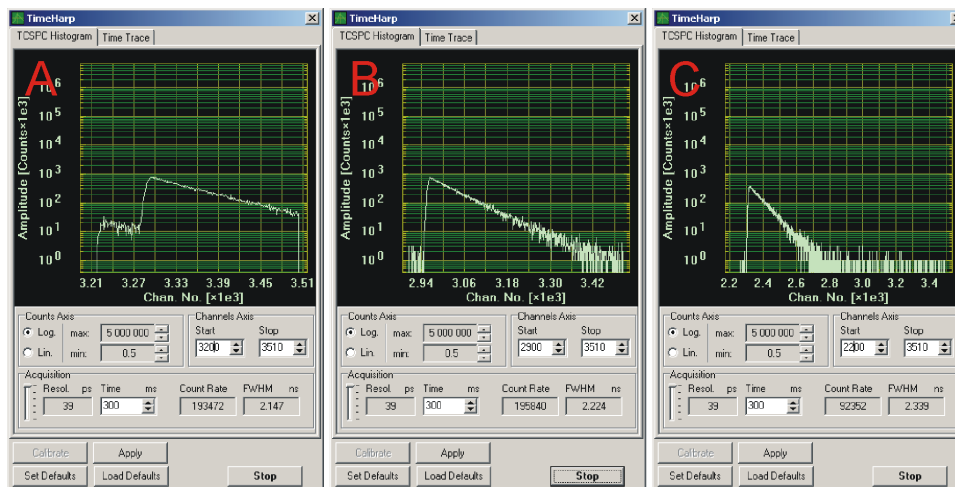

Fig. 3.5: Fluorescence decay at too high (A, 80 MHz), optimal (B, 40 MHz) and unnecessary low (C, 20 MHz) laser repetition rate.
This is illustrated in Fig. 3.5. At 80 MHz laser repetition rate, the fluorescence does not decay completely before the end of the time window is reached. Due to a “wrap around” the decay tail is observed even before the actual pulse (A). At 40 MHz the **time window is optimally adapted (B)**, while at 20 MHz the fluorescence has already decayed at less than half of the detection window (C). Therefore 40 MHz would be the optimal repetition rate in this case.
You can check the decay behavior of your sample using the oscilloscope window of the SymPhoTime software (select: ). Activate the TCSPC Histogram-tab and monitor the fluorescence decay as shown in Fig. 3.5.